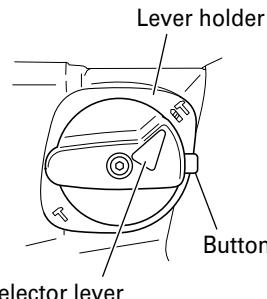

Fig. 6
- (1) Switching to "rotation + hammering"
- (b) Align ▲ of the selector lever and IT of the lever holder as illustrated in Fig. 6.